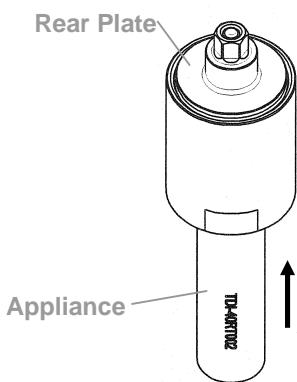

Fig. 289
- ② Use the appliance to push out the rear plate from the pulse cylinder seat. See Table 35 in reference to the proper appliance selection. (Fig. 289)